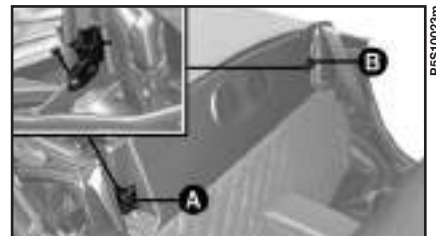

fig. 69
1) Fit the side brackets **A** and **B** **fig. 69** in the holes on the internal sides of the car, on the right and on the left.
2) Fasten the side brackets **A** and **B** to the body with the nuts and screws provided. Insert the screws and the washers from the outside of the body side and fasten the brackets from the inside with the nuts, **fig. 69**.